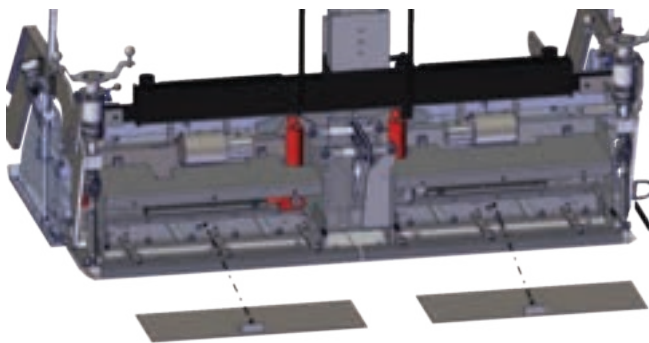

Figure 5-40. Inner Screed Element Covers
5. Grasp handle and slide out inner screed element covers as shown in **Figure 5-40** to access wear plate bolts.